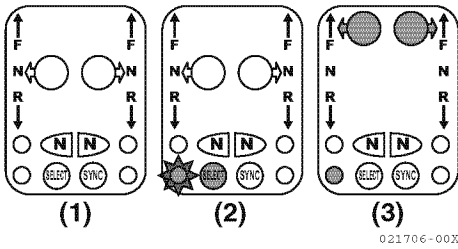

Figure 16
1. **(Figure 16, (1))** shows a typical inactive station.
2. Press the SELECT button **(Figure 16, (2))**. The button lights (grayed in **(Figure 16, (2))**) and the station select light flash (star around light in **(Figure 16, (2))**).
3. Move the handle(s) to forward or reverse throttle to match the handle location of the active station **(Figure 16, (3))**. The corresponding handle button lights (grayed in **(Figure 16, (3))**) and the station select light glow steadily (grayed in **(Figure 16, (3))**).